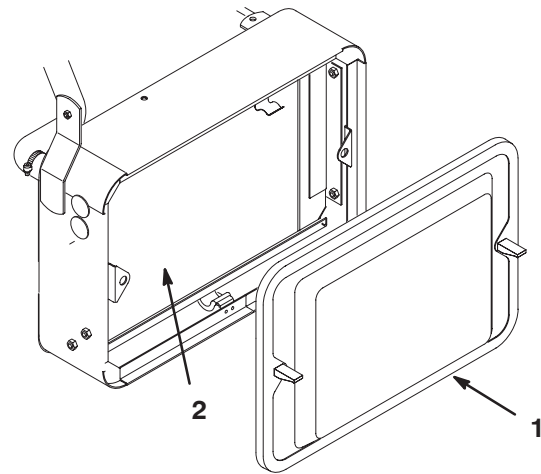

Figure 45
1. Remove the radiator screen (Fig. 45).